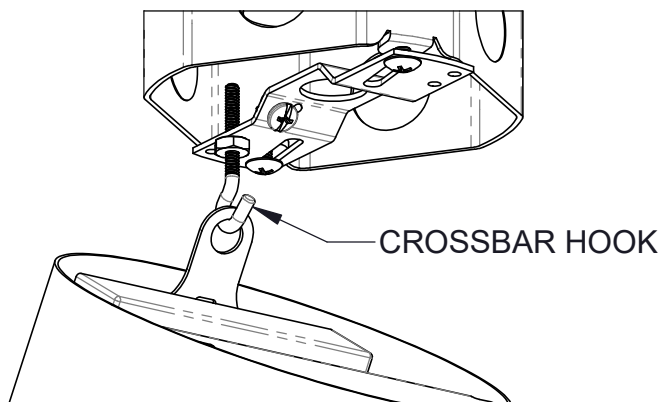

FIGURE 10. 5B CANOPY MOUNTED TO CROSSBAR HOOK
*IF 5B CANOPY, YOU MAY USE THE SUPPLIED CROSSBAR HOOK TO HOLD THE FIXTURE IN PLACE WHILE COMPLETING WIRING CONNECTIONS (**FIG. 10**).*